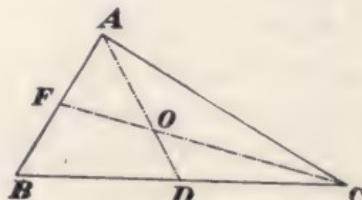

FIG. 12.
**101.** To find the center of gravity of a triangle, as  $A B C$ , Fig. 12: